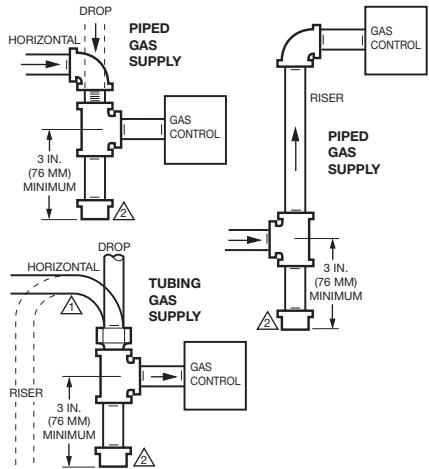

Fig. 2. Sediment trap installation
3. Install sediment trap in the supply line to the gas control. See Fig. 2.